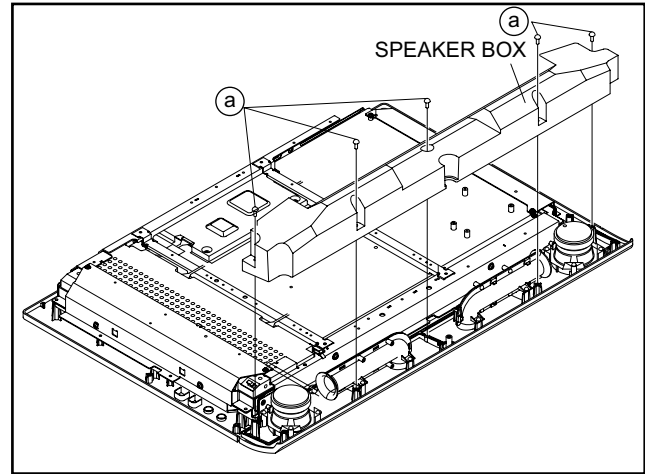
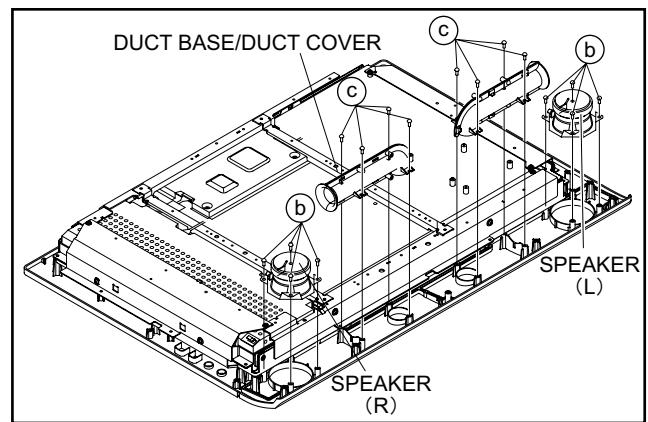

Fig.3-1-9A
Fig.3-1-9B
3.1.9 REMOVING THE SPEAKER (Fig.3-1-9A, Fig.3-1-9B)